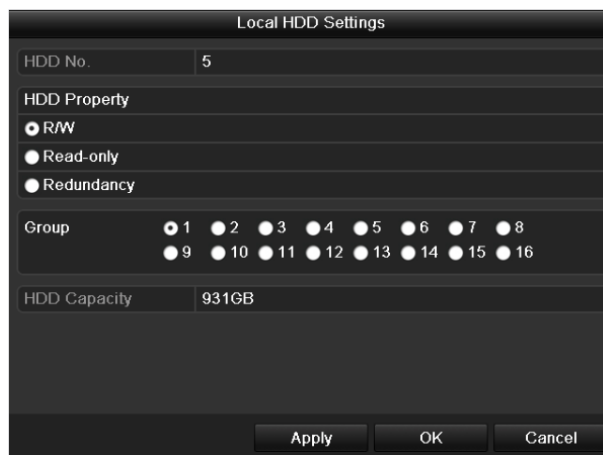

Figure 12. 15 Set HDD Property
2. Select HDD from the list and click the  icon to enter the Local HDD Settings interface, as shown in Figure 12. 15.